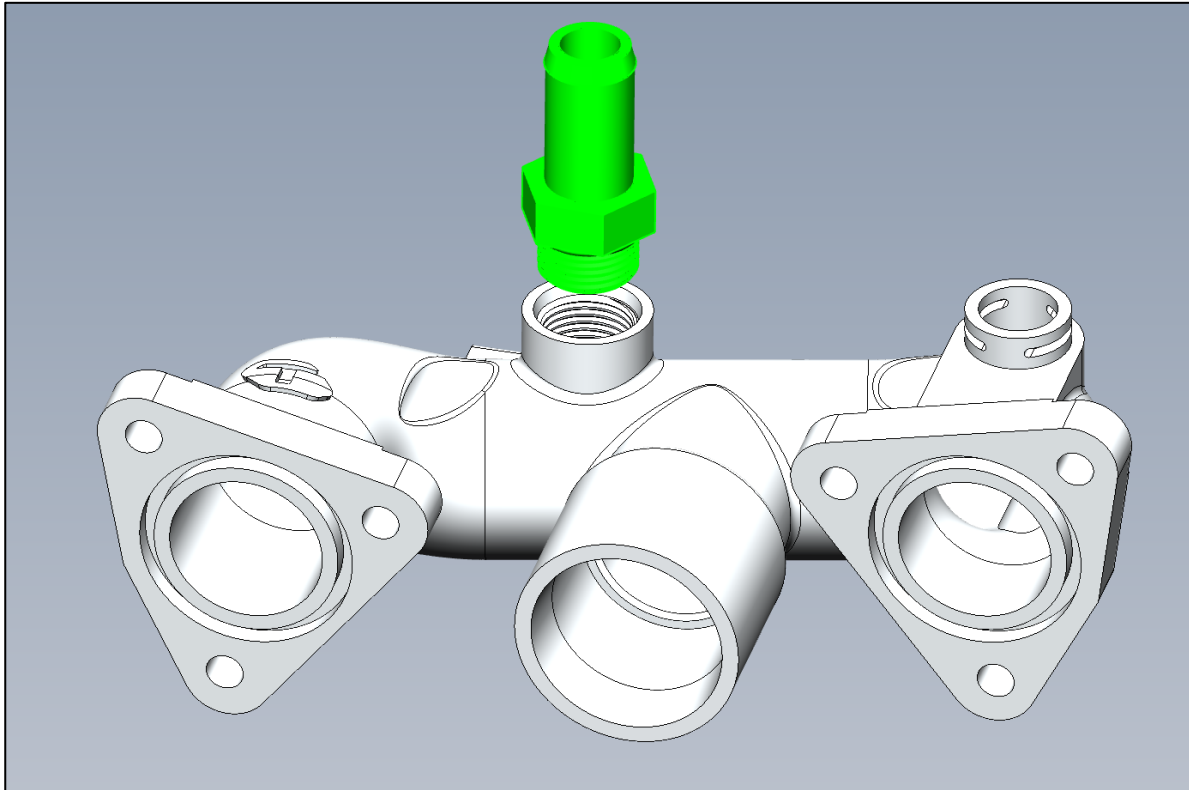

Figure 17
31. Install the Coolant Port into the Coolant Bypass Pipe. Tighten the Port until it bottoms out in the Bypass Pipe. **DO NOT** use Thread Sealant on this fitting. The O-Ring on the Coolant Port is a (1) one time use O-Ring once it has been tightened. If the Coolant Port is removed, the O-Ring **MUST** be replaced before reinstalling the Coolant Port. Figure 17.